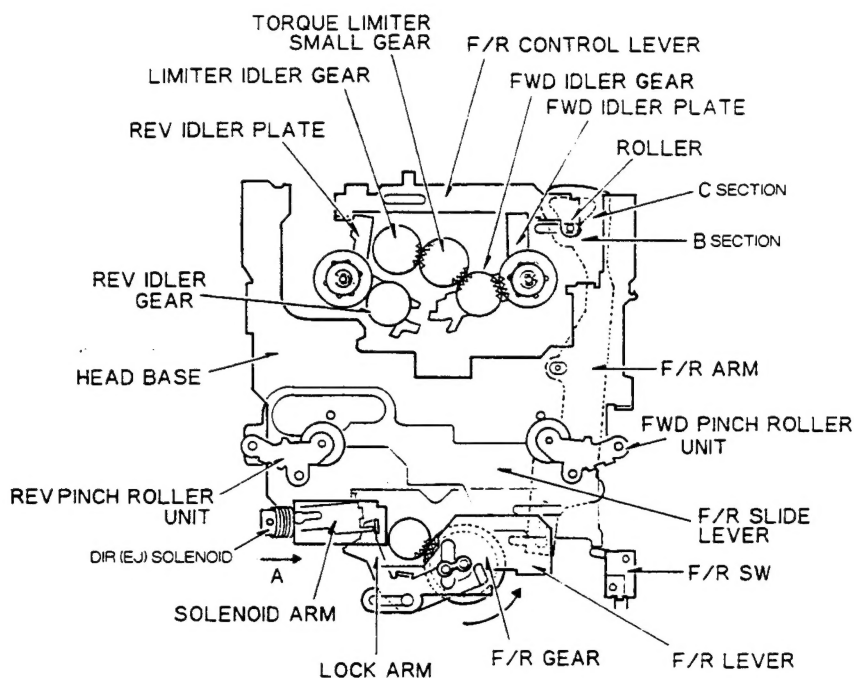

Fig. 19
As the roller is in the C section of the F/R arm when the head is at the release (EJ) position, no changeover is made. In this state, both idler gears of FWD and REV mesh with each other. (Figs. 19 and 20)